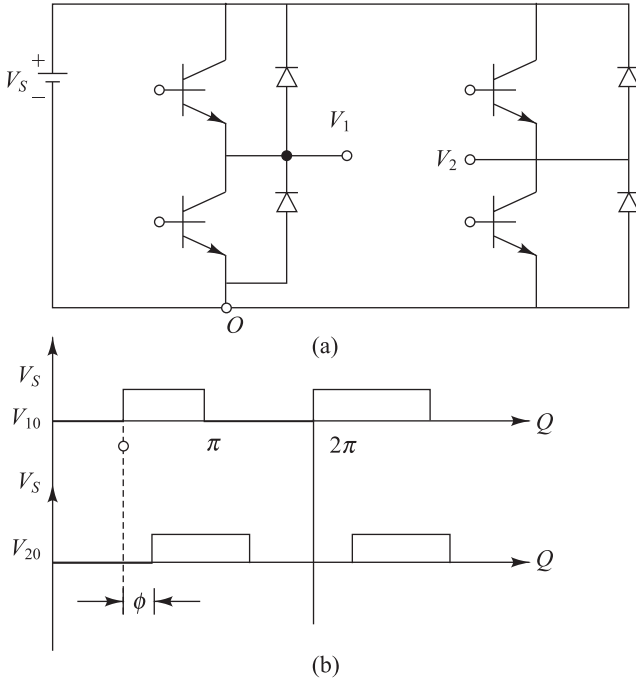

Fig. P.9.4
9.4 Figure P.9.4(a) shows an inverter circuit with a dc source voltage V_s . The semiconductor switches of the inverter are operated in such a manner that the pole voltages V_{10} and V_{20} are shown in Fig. P.9.4(b). What is the rms value of the pole-to-pole voltage V_{12} ?